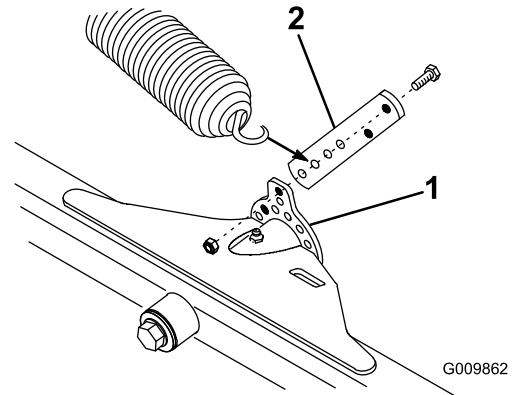

Figure 14
1. Mount a spring anchor to the rear inboard side of each front cutting unit lift tab with 2 bolts (1/4 x 3/4 inch) and locknuts, as shown in Figure 14.
2. On the front cutting units, hook the spring into the second hole from the bottom (#3 position) in the spring anchor (Figure 14).